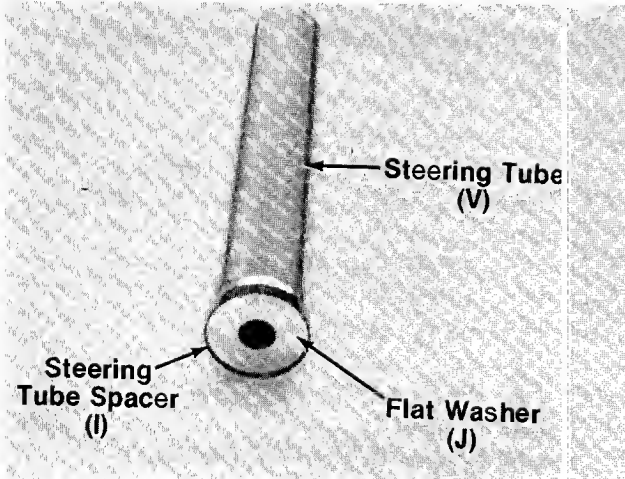

FIGURE 5.—Style A Only
2. **Style A only**—Press the large flat washer (J) (1-5/8" diameter) into the open side of the black plastic steering tube spacer (I). See figure 5.
3. **Style A only**—Press the steering tube spacer into one end of the chrome-plated steering tube (AE). See figure 5. Make certain spacer is seated securely into tube.